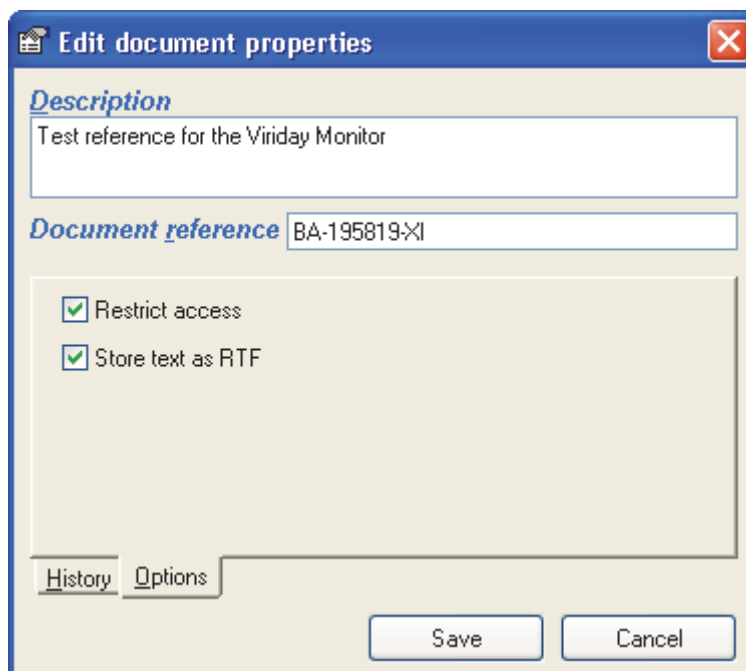

Figure 4-25. Edit Document Properties Dialog Box
1. Click the **Options** tab. The dialog box in Figure 4-25 opens.